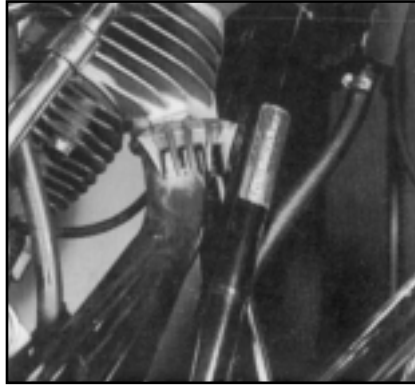

Fig. 1
1. Disconnect the battery. Secure the motorcycle on a suitable stand with the rear wheel off the ground if no kickstarter is on the model. Remove components necessary for easy access to pushrod covers an gear case cover, i.e., exhaust system (Fig. 1), right footrest (Fig. 2) brake pedal (Fig. 3), and air cleaner.